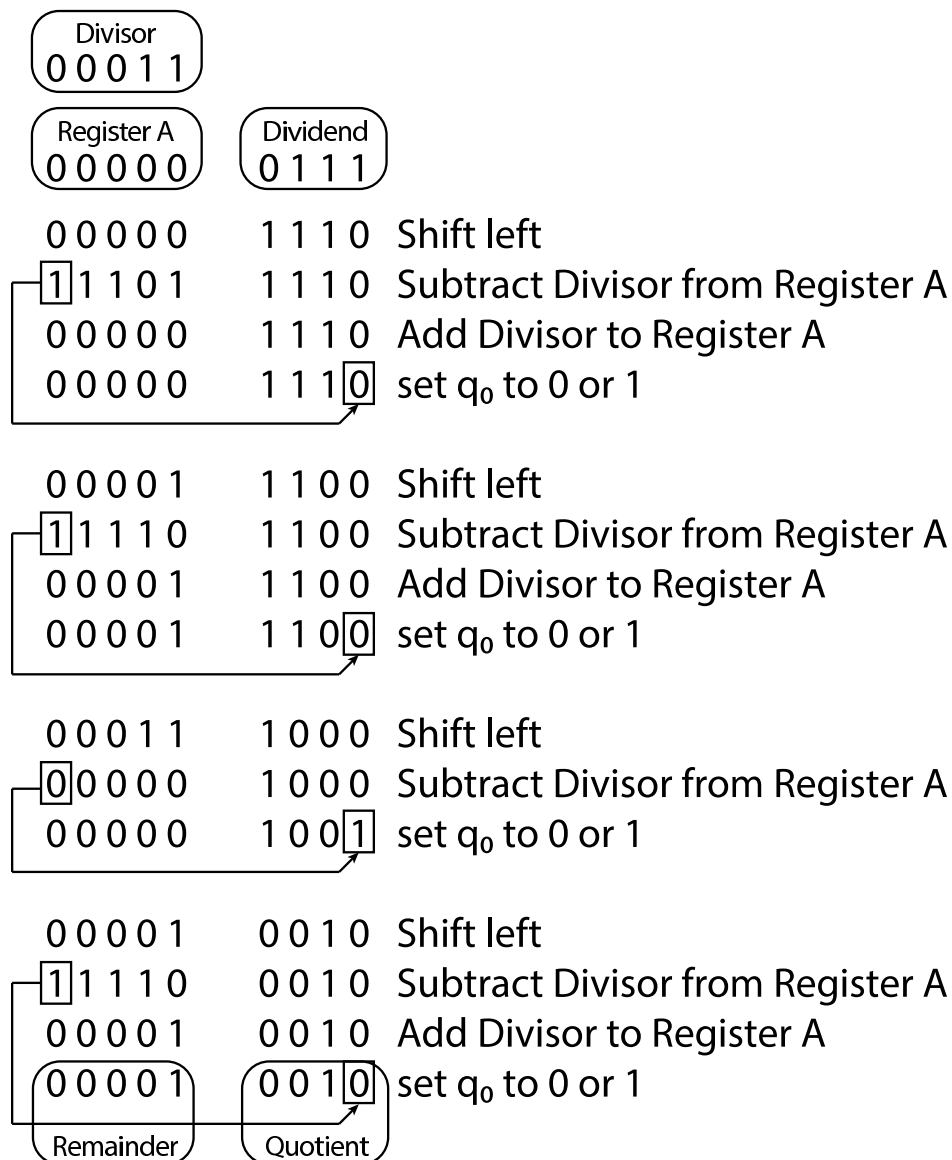
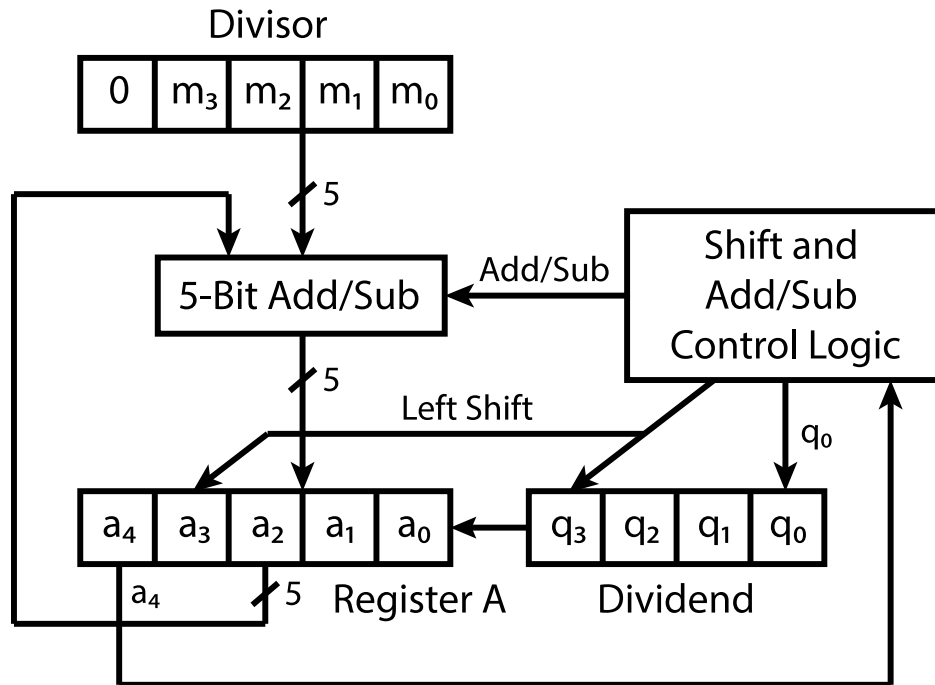

Figure 6: An example showing how the restoring divider works.
Figure 7: Block diagram of restoring divider.
First, you must understand how division is performed in hardware. Figure 6 shows an example of how the restoring divider works. This mimics what you do when you do long division by hand. In this specific example, number 7 (*Dividend*) is divided by number 3 (*Divisor*). The restoring divider starts with *Register A* set to 0. The *Dividend* is shifted left and the bit shifted out of the left most bit of the *Dividend* (called the most significant bit or MSB) is shifted into the least significant bit (LSB) of *Register A* as shown in Figure 7.
1. Draw a schematic for the datapath of your circuit. It will be similar to Figure 7. You should show how you will initialize the registers, where the outputs are taken, and include all the control signals that you require. Do not forget the clock and resets.
2. Draw the state diagram to control your datapath. Check it by hand simulating the example shown in Figure 6. Hand simulation just means to work through the steps using your schematic and state diagram to check whether you can do the required operations before going through the effort of setting up the simulator. This may not catch all bugs, but it is a good step to make sure you have a design that has a chance of working.
6. Simulate your circuit with ModelSim for a variety of input settings, ensuring the output waveforms are correct. Start with Figure 6 as an example because it shows you all the steps with the values that should be in the registers at each step.